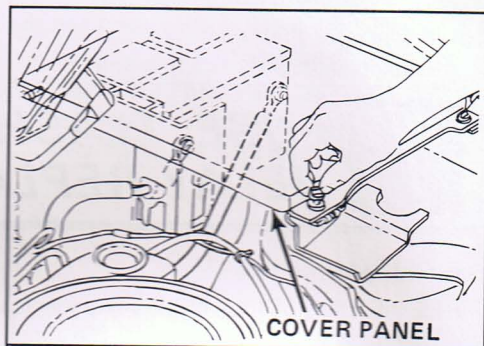

Figure 1 - RH side of rear compartment
2. Remove the two thumb screws holding the battery cover panel to the body and lift the panel out. See Figure 1.
A burned fuse will cause some part of your car to stop functioning. You can tell if a fuse is burned by looking at the fuse to see if the thin wire inside the fuse is broken. See Figure 1.